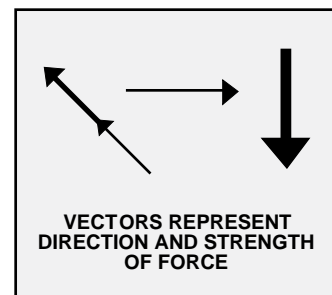

Figure 30. A vector is an arrow used in drawings and formulas relating to stability. It shows both direction and magnitude, or power.
- *Vector* represents the strength and direction of force in drawings or calculations. A vector is shown as an arrow (fig. 30). A fat arrow represents a stronger force than a skinny arrow. A fat arrow can also represent forces that have joined together.